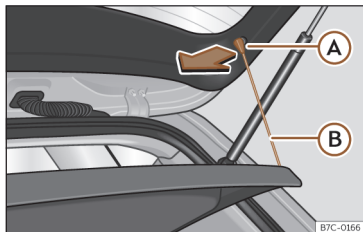

Fig. 186 In the luggage compartment: removing and installing the shelf.
- Detach the cord loops >>> **Fig. 186 (A)** from their hooks **(A)**.
- Attach the securing straps >>> **Fig. 186 (B)** onto the rear lid.